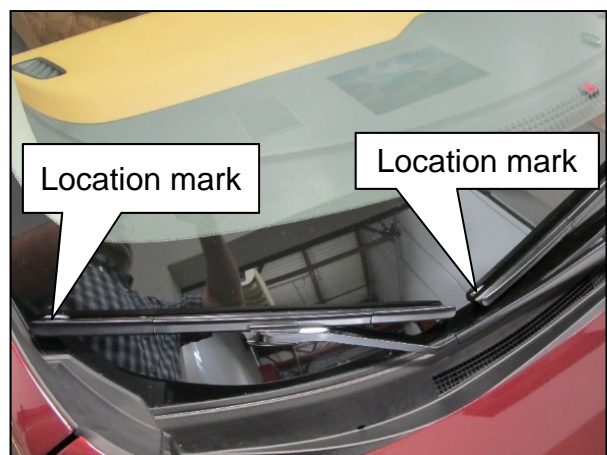

Figure 29
18. Install the wiper arm assemblies (Figure 29 and Figure 7 on page 4).